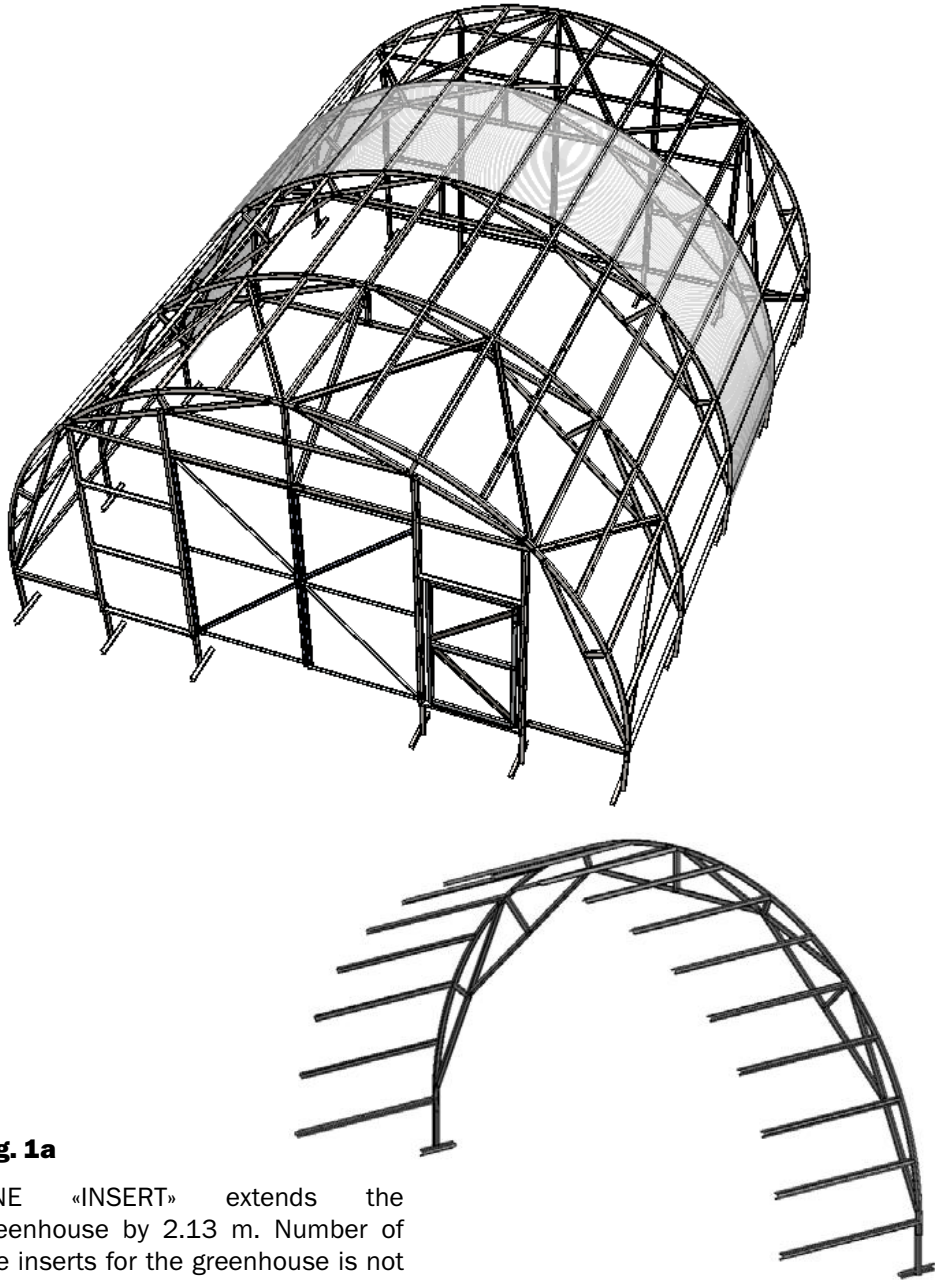

Fig. 1a
1. General view of the frame is shown in Fig.1, with tambour - Fig.1a (tambour is to be purchased separately at the customer's request). The frame is assembled from the shaped numbered parts. Middle flanges of the frame are facing the cladding.